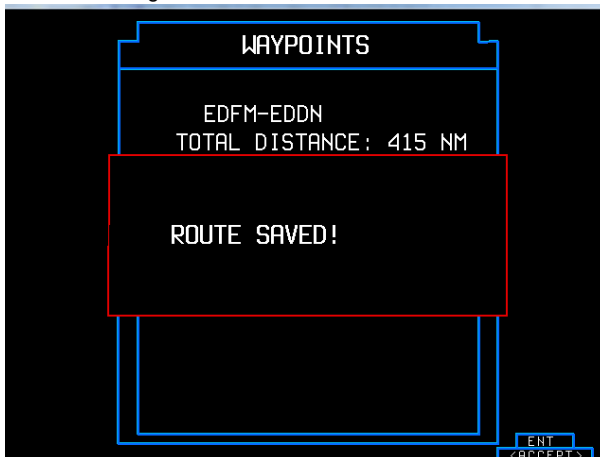

Figure 60: "RTE", "ROUTE SAVED!"
- With this function, the route can be stored on a plugged external storage medium (Figure 60).